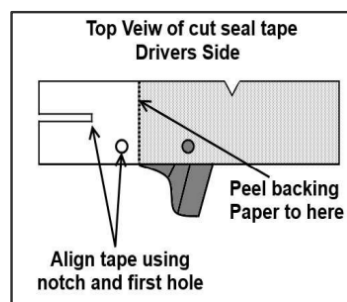

Figure 17
• Partially peel the backing paper from the driver's side seal. Align the notched section and the first hole to the vehicle and apply the seal tape to cover the gap between the headboard and the cabin end of the tub. **Refer Figure 17**.